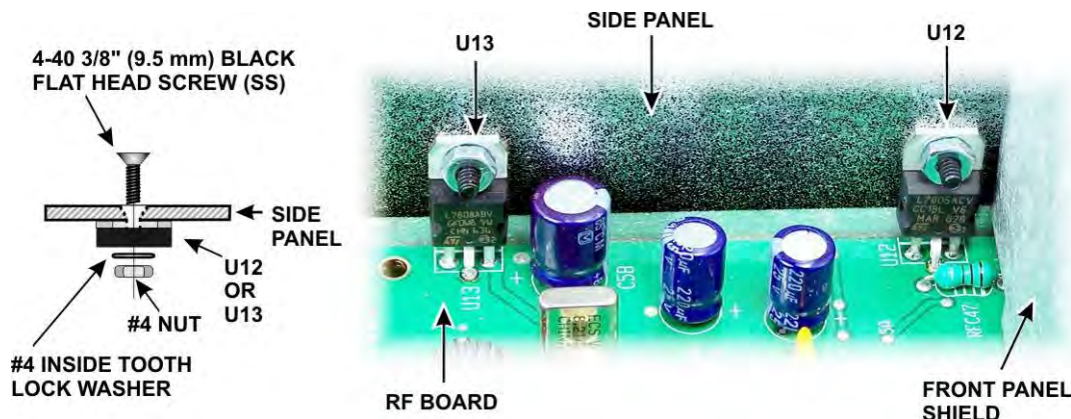

Figure 65. Attaching U12 and U13 to the Right Side Panel.
Attach voltage regulators U13 and U12 to the right side panel as shown in Figure 65 using a 4-40 3/8" (9.5 mm) black flat head screw (SS), #4 inside tooth lock washer and a #4 nut for each regulator as shown. When the screws are tightened the tabs on U12 and U13 should lie flat against the side panel.